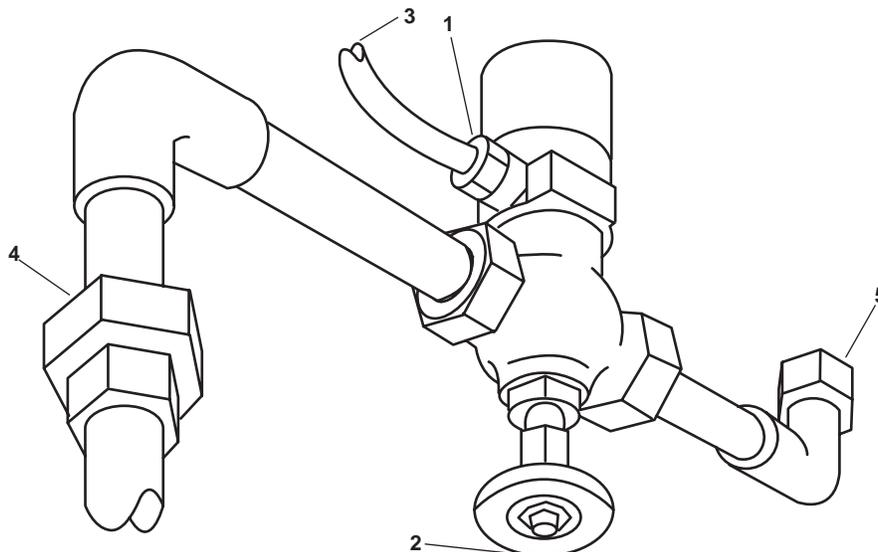

Figure 5. Back Flush Inlet Valve Removal
4. Remove the gasket nut (figure 5, item 1) from the back flush inlet solenoid valve (figure 5, item 2) and label and disconnect the wiring (figure 5, item 3).
5. Place a suitable drain pan under the union (figure 5, item 4) and the backflush inlet solenoid valve (figure 5, item 2).
6. Slowly loosen the unions (figure 5, items 4 and 5) and allow any trapped pressure to escape.
7. Disconnect the unions (figure 5, items 4 and 5).
8. Remove the unions (figure 5, items 4 and 5) and other fittings from the back flush solenoid valve (figure 5, item 2) and set aside for later assembly.
1. Using a wire brush, clean all old sealant from the male pipe threads of the unions (figure 5, items 4 and 5) and attached piping.
2. Apply antiseizing tape to the male pipe threads of piping (figure 5, items 4).
3. Install the unions (figure 5, item 4 and 5) and the attached piping into the backflush inlet solenoid valve (figure 5, item 2).
4. Connect the unions (figure 5, items 4 and 5) to the vessel's piping.
5. Connect the wiring (figure 5, item 3) to the backflush inlet solenoid valve (figure 5, item 2).
6. Remove the labels from the wiring (figure 5, item 3) and install the gasket nut (figure 5, item 1).